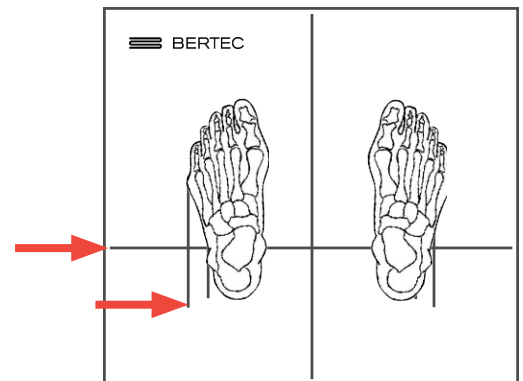

Figure 18: Foot Placement on Plate
4. Properly position the patient's feet on the balance plate. For most assessments, a patient will position their feet such that their medial malleoli are aligned with the line running from left to right and the lateral calcanei are aligned with the small, medium, or large lines. This will be indicated on the clinician screen. In general, the patient is allowed to splay their feet equilaterally so that they are standing comfortably. Proper foot placement is illustrated in Figure 18.